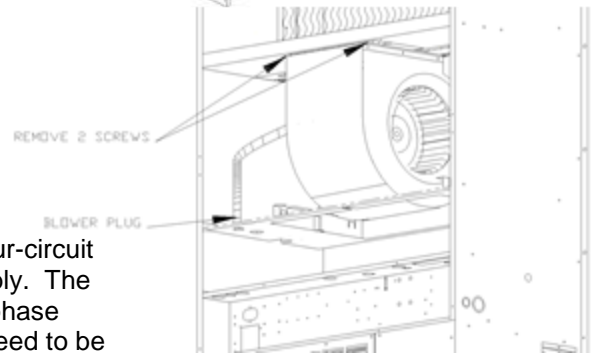

Fig. 2
3. Unplug the blower from the blower plug and remove the two screws securing the blower to the evaporator coil shelf (Fig. 2). On units with double blowers, there are three screws in the front and one screw on top (between blowers).